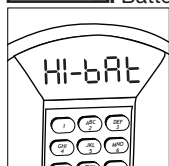

Figure 1
**HI-bAT**: Battery power is good (Figure 1).